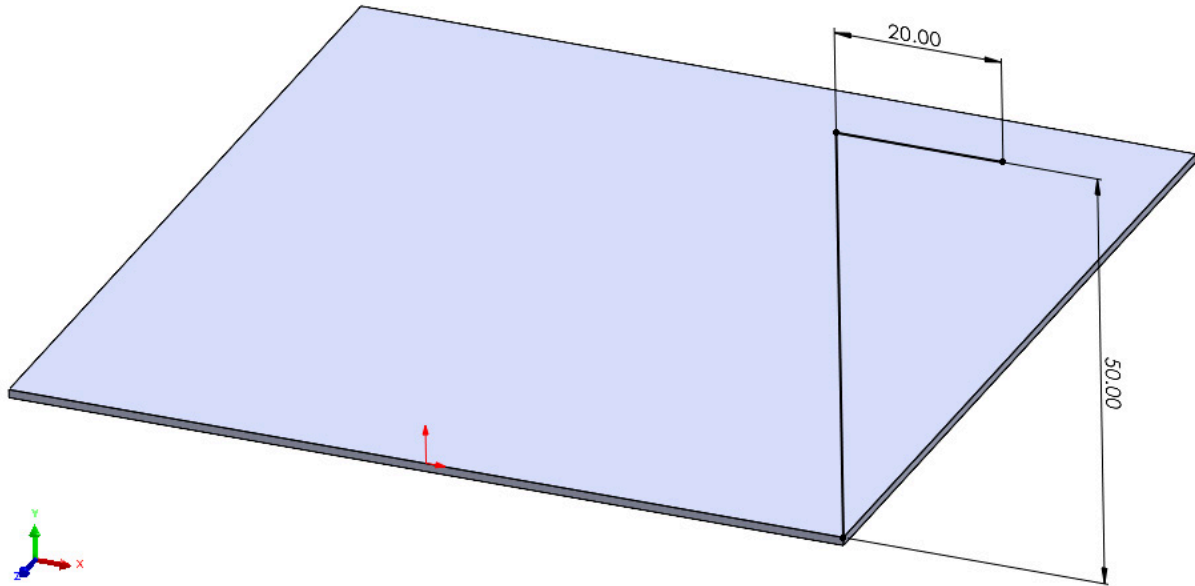

Figure 5.1: Creating a Base Flange and sketching a flange profile on one of the small faces
3. Use the **Line** tool to draw a simple flange profile, like the one shown in *Figure 5.1*. Remember to Fully Define your sketch by adding Relations and Dimensions. The sketch profile must be open for it to work correctly: